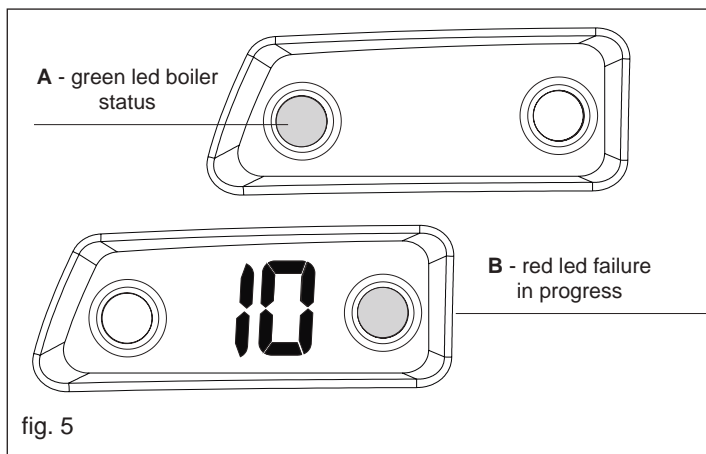

fig. 5
- if there is a heat request, the boiler starts and the flame comes on, while the signal light is green and fixed (A - fig. 5).
If there are any firing or operation faults, the boiler will make a "safety stop"; on the control panel the green led will go out, the display will show a flashing fault code and, in the event of a lockout also the red led (B - fig. 5) will come on.